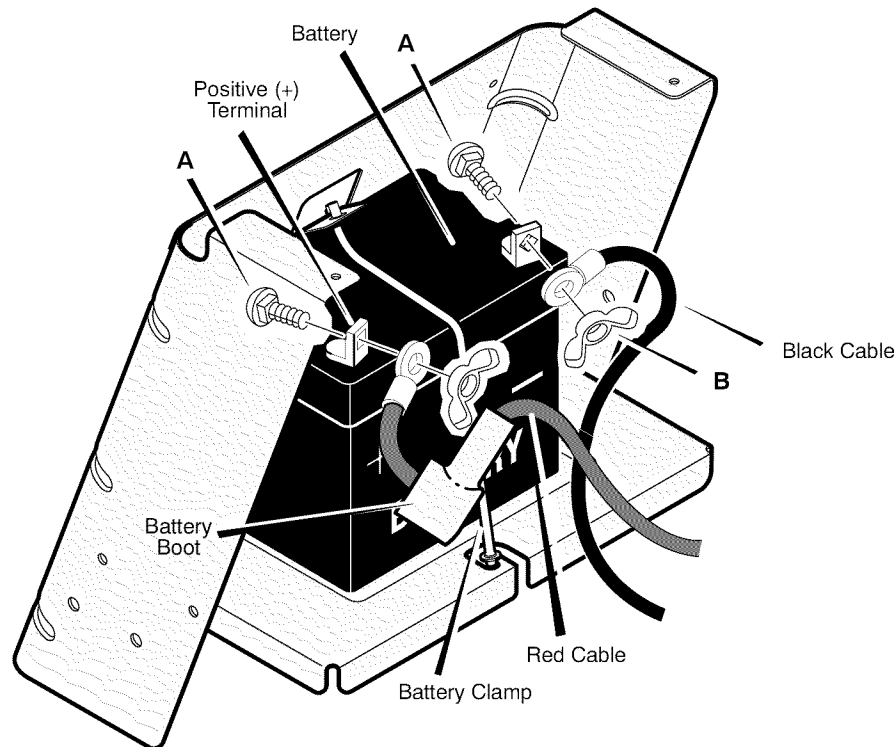

Figure 22
1. Disconnect the **black cable** from the negative (-) terminal (Figure 22).